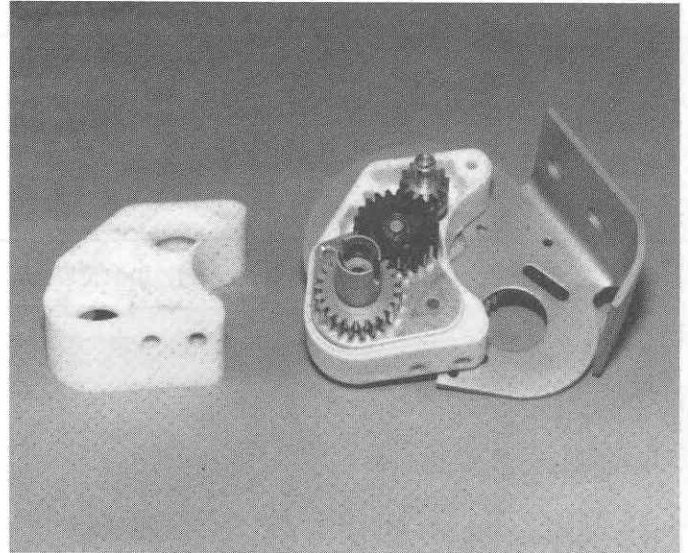

Fig. 86
□ **Fig. 86** Take the L.H. side of the housing and push it onto the R.H. side. It will snap together with finger pressure.